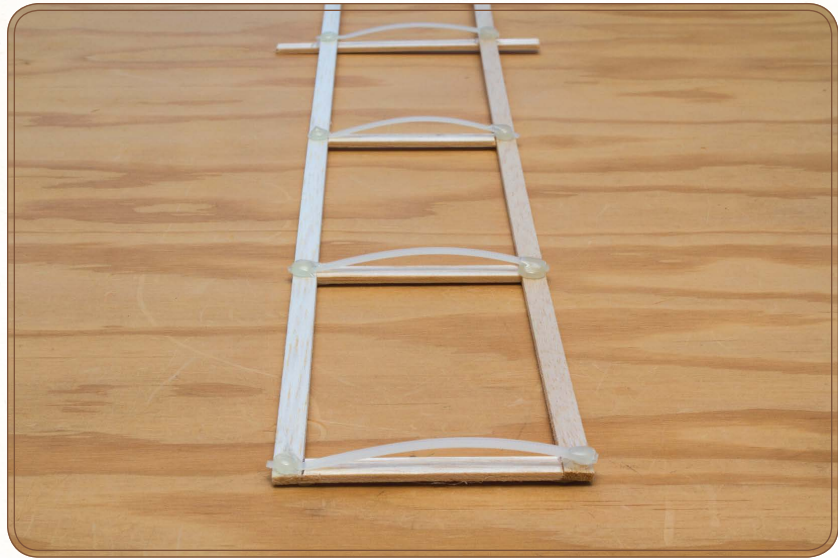

Figure 10.8: The wing structure with the cable ties attached
2. After the glue sets, flip the wing structure over and attach the seven cable ties. Hot glue them securely to the 36-inch wing spanner pieces opposite the spars (see Figure 10.8 on the next page). To do so, glue down one end, then form the cable tie into a gentle arc that is about $\frac{3}{8}$ -inch high at midpoint (you can use a $\frac{3}{8}$ -inch-wide piece of balsa as a gauge) above the plane of the spars; glue into place.